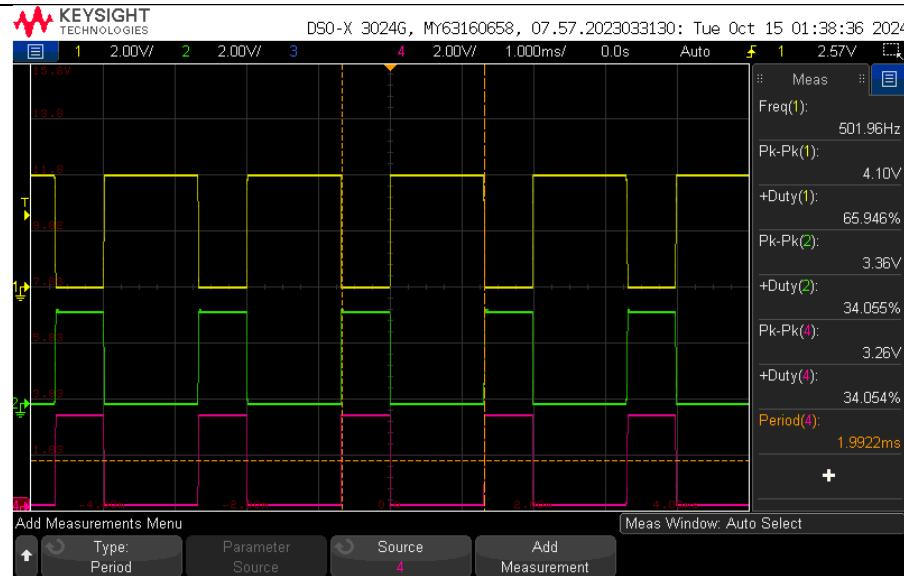

Figure 6 555 clock and triggers of Hex inverters
2. The 555 timer output drives one input of each hex inverter, and the corresponding inverter outputs are used as trigger signals. Since the inverters operate from a 3.3 V supply, each trigger output is expected to have a 3.3 V peak-to-peak amplitude and to be inverted relative to the 555 output. The observed frequency, duty cycle, and amplitude of both inverter triggers closely match those of the 555 timer output, as illustrated in *Figure 6*.